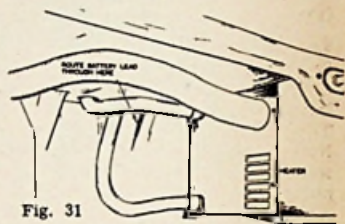

Fig. 31
- (5) Route battery lead through aperture shown in Fig. 31 and into engine compartment; through grommet hole which will be found in the centre of the engine rear mounting member.
- (6) Route aerial lead into vehicle by the same path and fit soft rubber round shouldered grommet (which may be cut for ease of fitting) provided. Note : To simplify the aerial lead routing on the above vehicles, a 7/8" dia. hole may be drilled through the engine bulkhead in the position shown in the